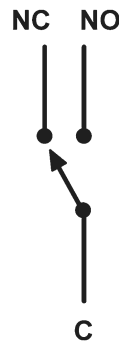

Figure 16.4 Switch terminal terminology.
Closed” (NC). The terminal that is connected, by the movement of the button or toggle, to the NO or NC terminals is the “Common” (C; see figure 16.4).